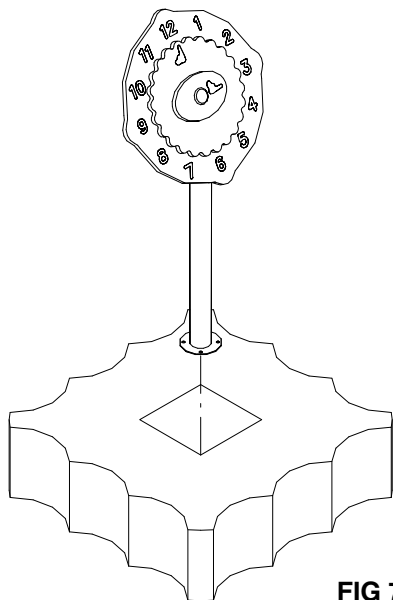

FIG 7
- vii) Position the clock table into the excavation, packing up to height, level and plumb. (Fig 7)